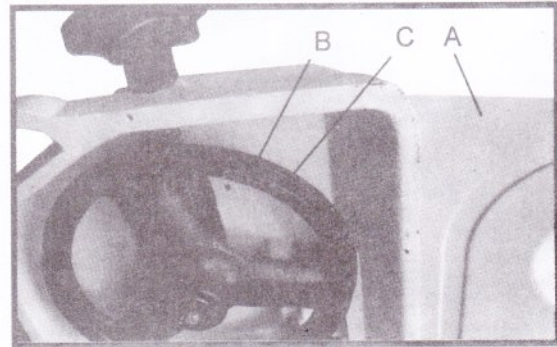

Fig. 6
1. Place the saw arm in the opening position as you can, and open the wheel cover (A). Fig. 6.
2. Turn on the metal band saw. The blade is tracking properly when the back of the blade (B) Fig.6, is just touching the edge of the wheel flange (C). The back of the blade should not be rubbing against the flange.